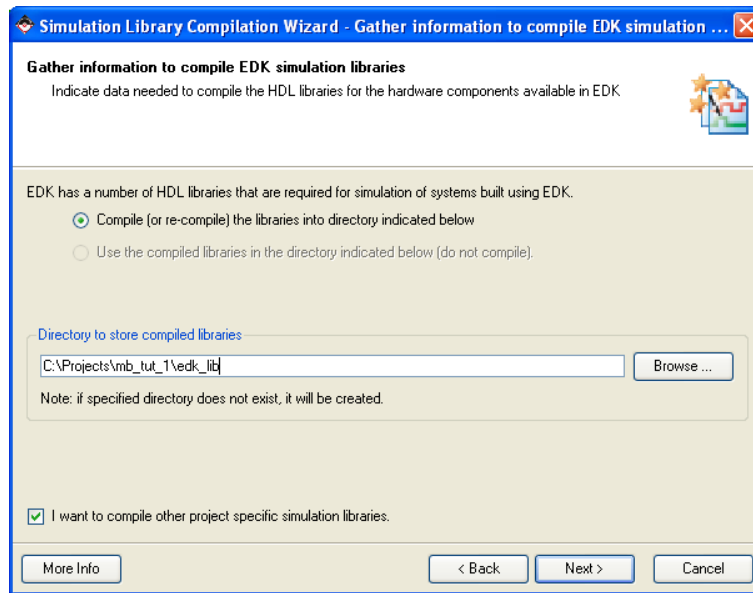

Figure 7: Simulation Library Compilation Wizard - Information to compile EDK simulation models
- The next screen of the wizard is used to select the directory in which EDL simulation models are compiled as shown in Figure 7. **Select a suitable location and Click Next**.